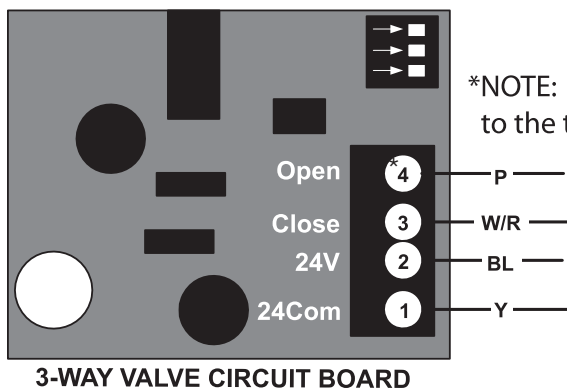

Figure 33 – 3-Way Valve Cover Connection Diagram
7. Reconnect the wires to the 3-way valve circuit board as shown in Figure 33.
Note: Orientation of the valve connections may vary from what is shown. Care should be taken to ensure wires are connected to the appropriate terminals, see Figure 33 on page 32 of this manual.